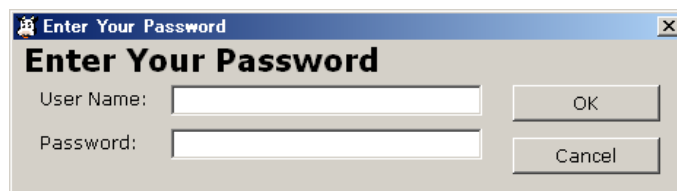

Fig. 11.1-1 : Password entry
- (1) Click on “Communication” in the Configuration menu.
- (2) Enter your User Name and Password (Fig. 11.1-1), then click “OK” to confirm.